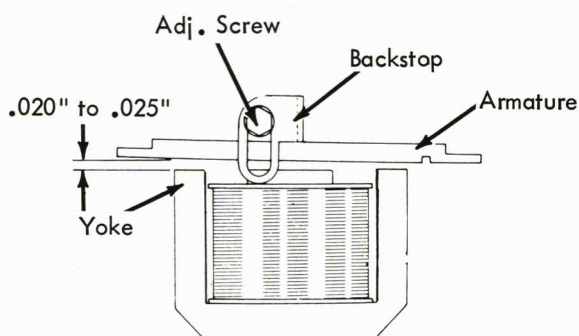

FIGURE 124. Armature Backstop
3. Armature Backstop (Fig. 124) - Position (armatures at rest) so that the armatures clear their yokes by .020" to .025".